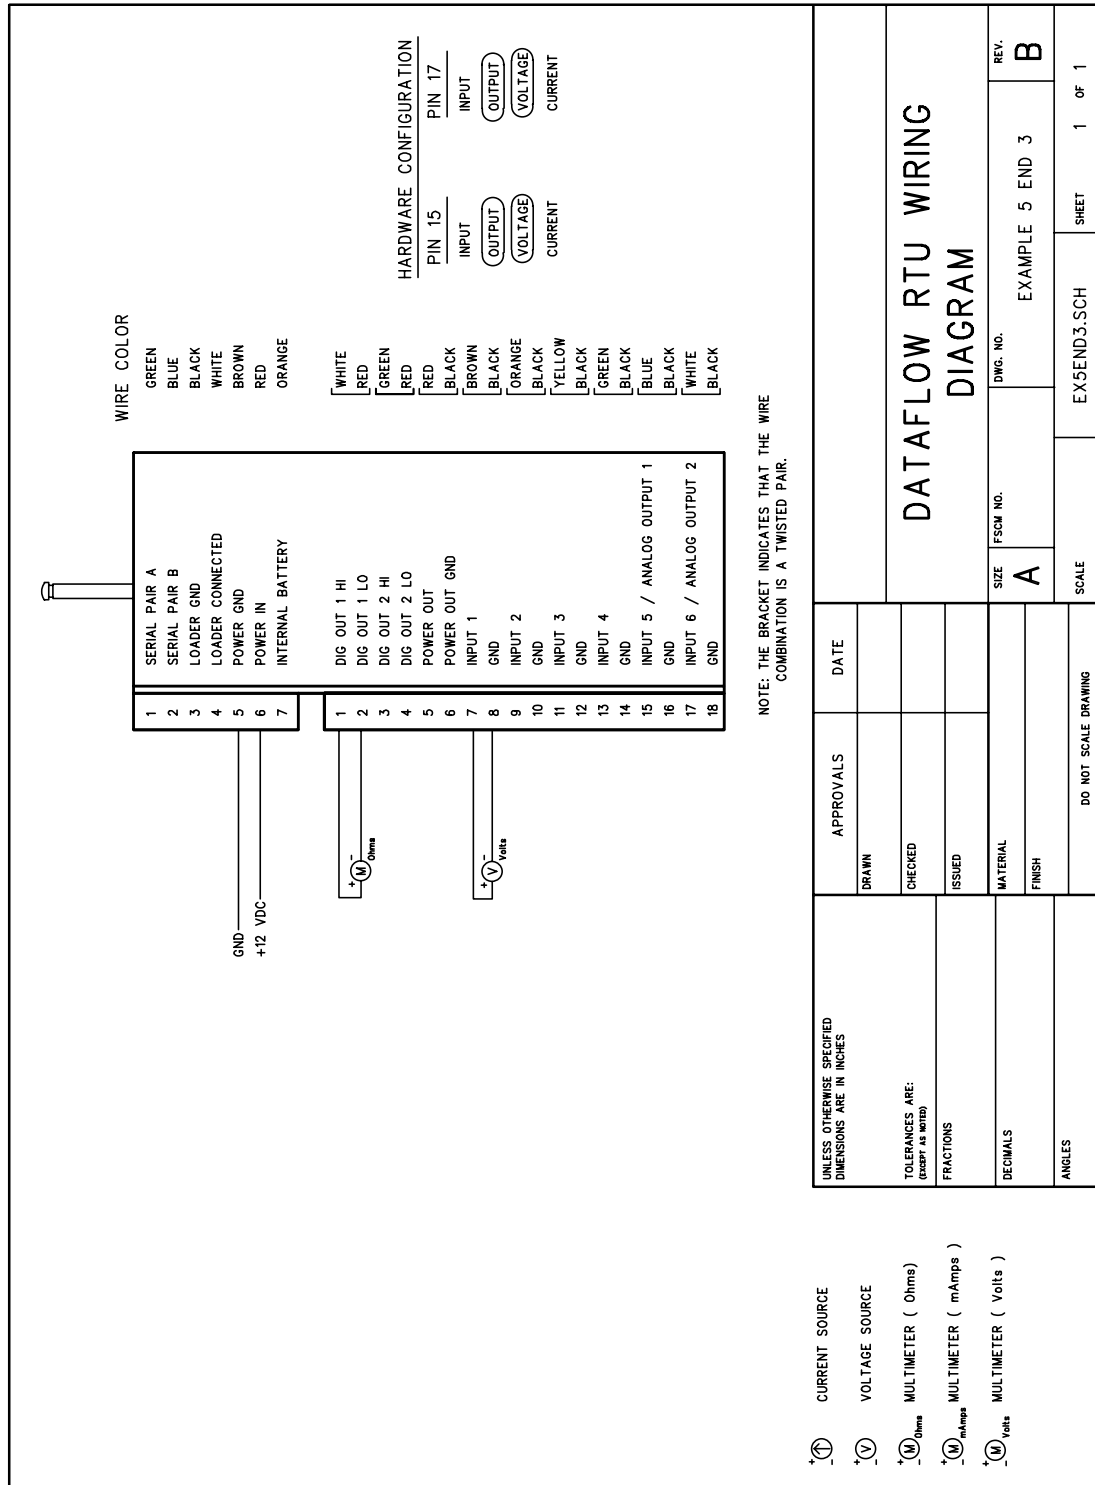

Figure B10 - EXAMPLE 5 RTU ID 3 Wiring Diagram
- 8.6.2 RTU ID 2 SETUP: Example 5 requires one **DATAFLOW RTU** to be wired and its hardware configured according to Figure B10 - EXAMPLE 5 ID 2 Wiring Diagram on page B-34. Load Software Programming configuration file **EXP5ID2.USR** into RTU ID 2.